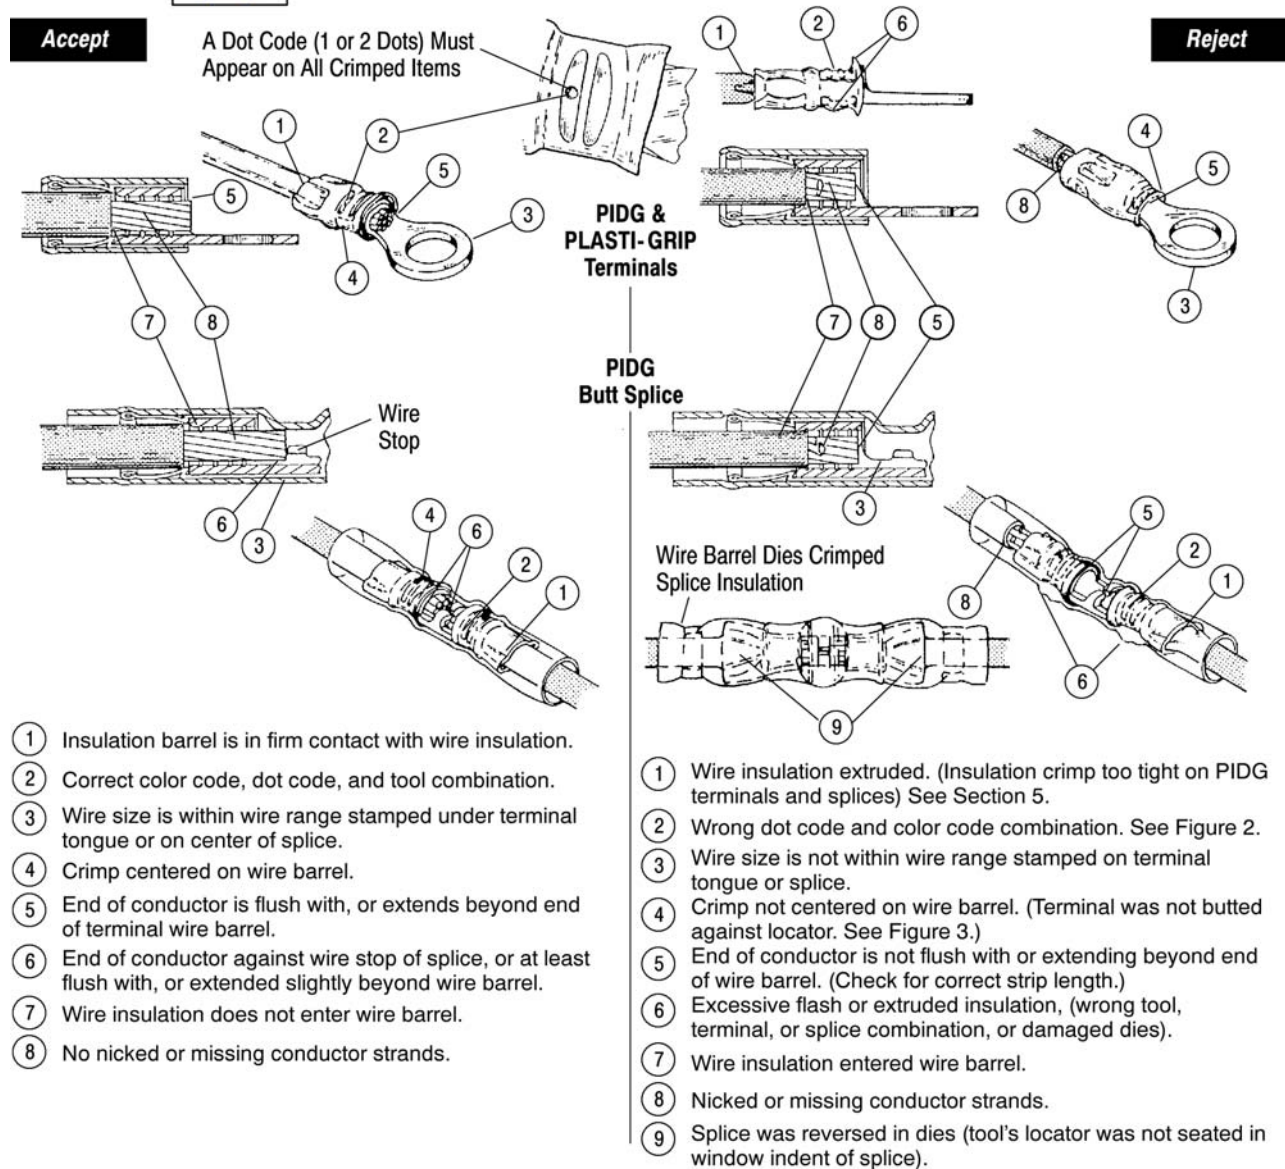
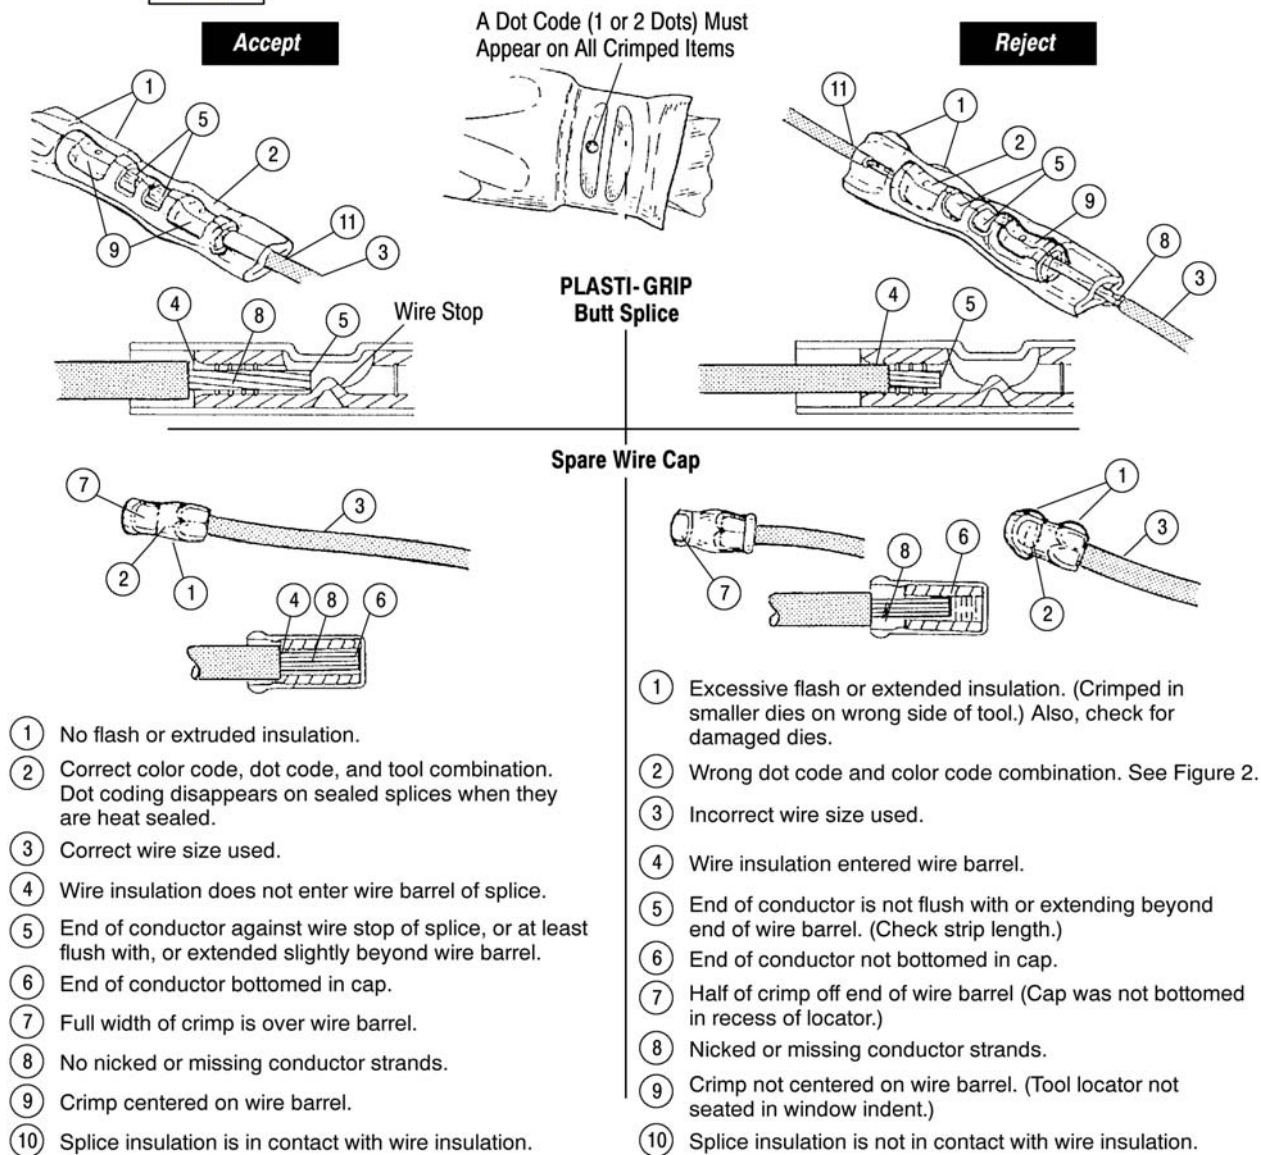

Figure 6
Figure 7
8. Refer to Section 6 and Figure 6 or Figure 7 for terminal or splice "Crimp Inspection" procedure.
8. Refer to Section 6 and Figure 7 wire cap crimp inspection procedure.
Inspect crimped terminals, splices and spare wire caps by checking the features described in Figure 6 or Figure 7.